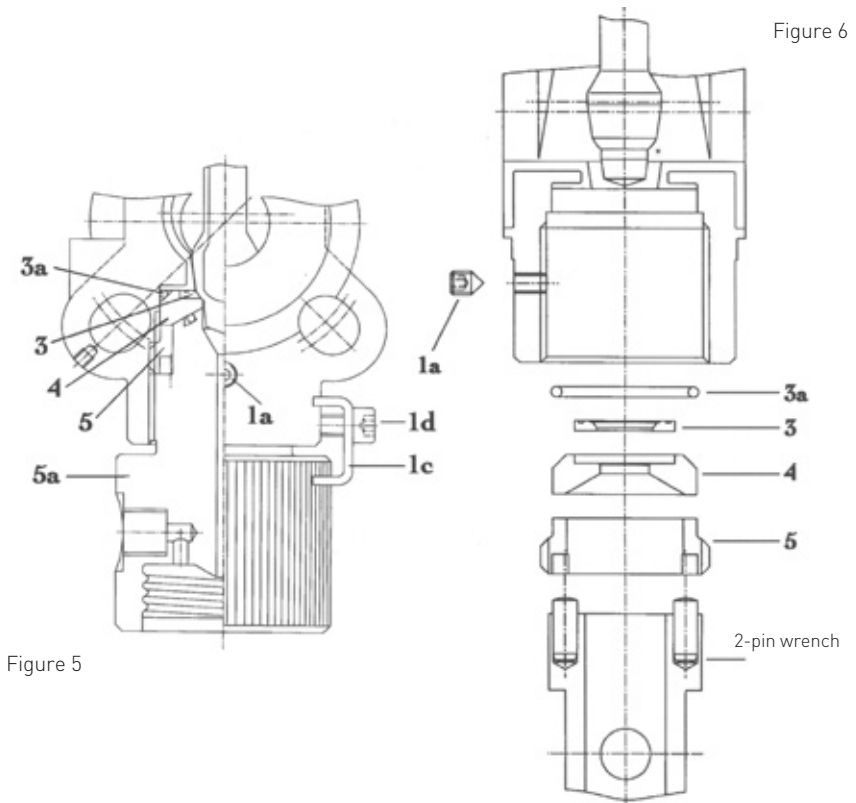

Figure 5
7. Secure the nozzle by tightening set screws (6).
- 1 *Wafer body design (see Fig. 5 and Fig. 6)*